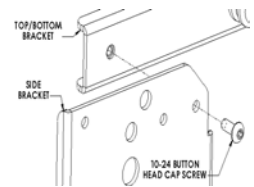
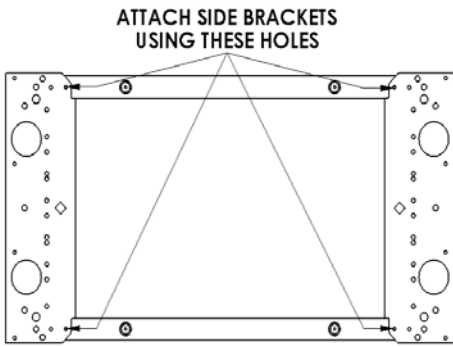

Figure 4
Figure 5
3. Using four 10-24 button head cap screws, attach top and bottom to side brackets (see Figure 4 & Figure 5).